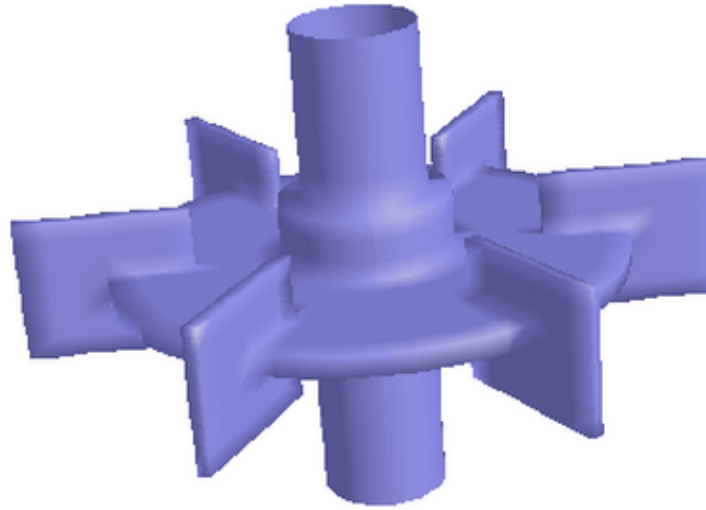

Figure 9.1: Schematic of Impeller
Consider a cylindrical vessel of diameter (T) 1 m, filled with water up to $H = T$. The fluid is stirred by a standard six-blade Rushton turbine (Figure 9.1) rotating at a speed of 50 rpm. The turbine diameter (D) = $T/3$, blade height = $D/5$, and blade width = $D/4$.